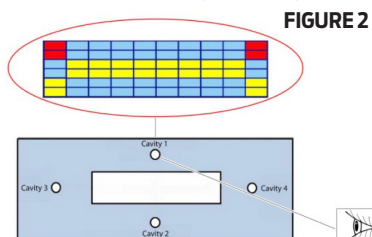

FIGURE 2
7. View the centering grid through the Cavity 1 hole in the HUD eye box (**Figure 2**).